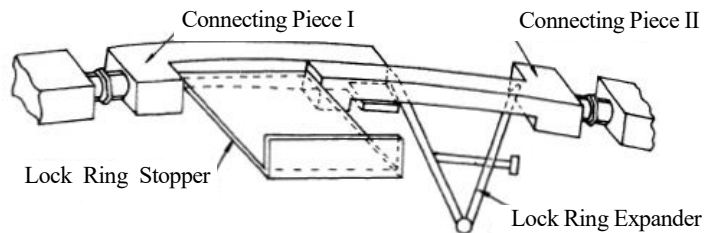

Figure-24 Lock Ring Stopper
- (8) Widen the Lock Ring with the Lock Ring Expander. Insert the Lock Ring Stopper between the Connecting Pieces I and II (Figure-24), then remove the expander.